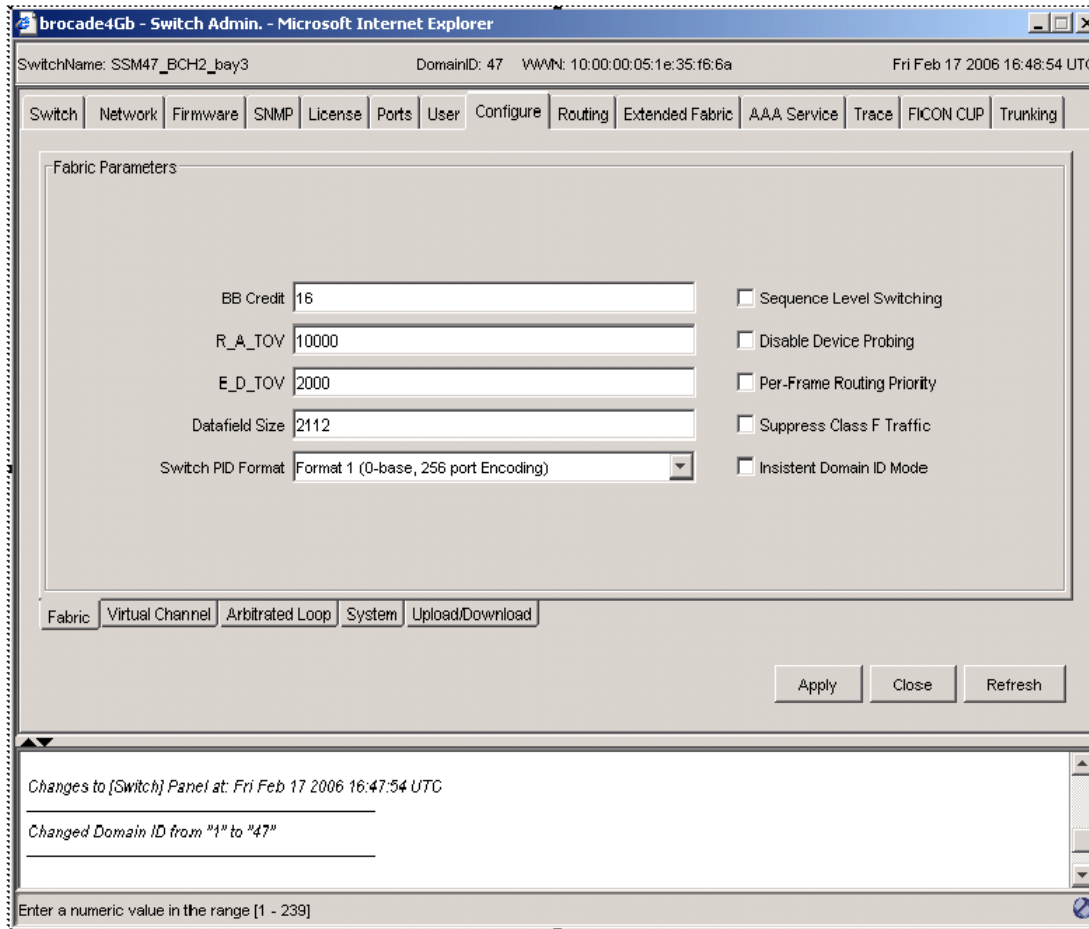

Figure 5-10 Verify Switch PID Format
10. For new SAN installs, select the **Configure** tab (Figure 5-10) and verify that Switch PID Format is set to Format 1. Occasionally, when connecting to older external switches, you may need to change the Switch Port ID format. Refer to “Building the Brocade SAN fabric” on page 101 for more details.